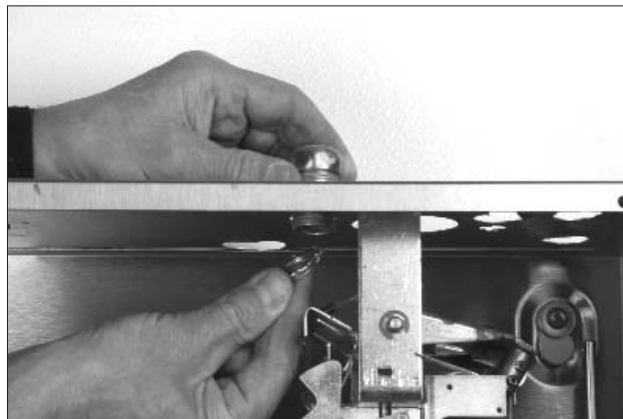

FIGURE 80
1. Starting at the ANSUL AUTOMAN Release, connect the conduit connector using the supplied nut. Use only ANSUL conduit fittings, Part No. 55813. See Figure 80.